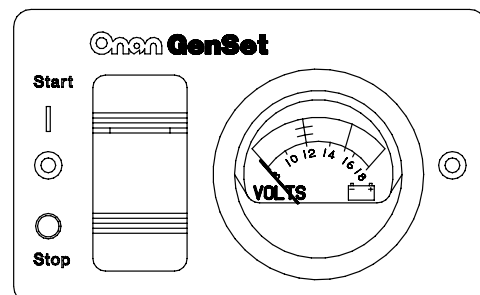

FIGURE 5-5. REMOTE SWITCH / DC VOLTMETER
- Remote start/stop switch with status indicator light and DC voltmeter (Figure 5-5).